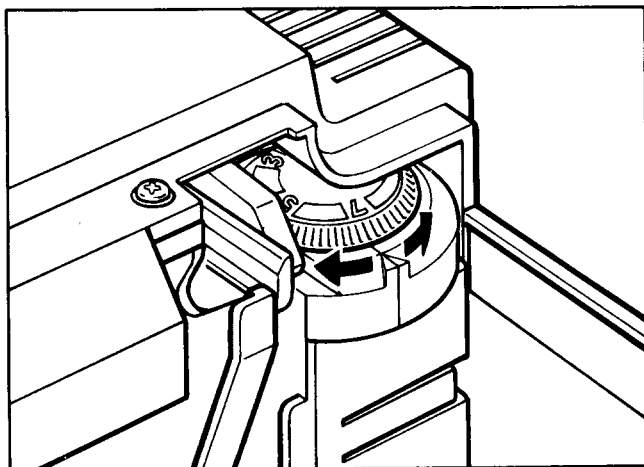

Fig. 10-12
- To make the printing darker, turn the dial clockwise (Fig. 10-12) to a higher number.